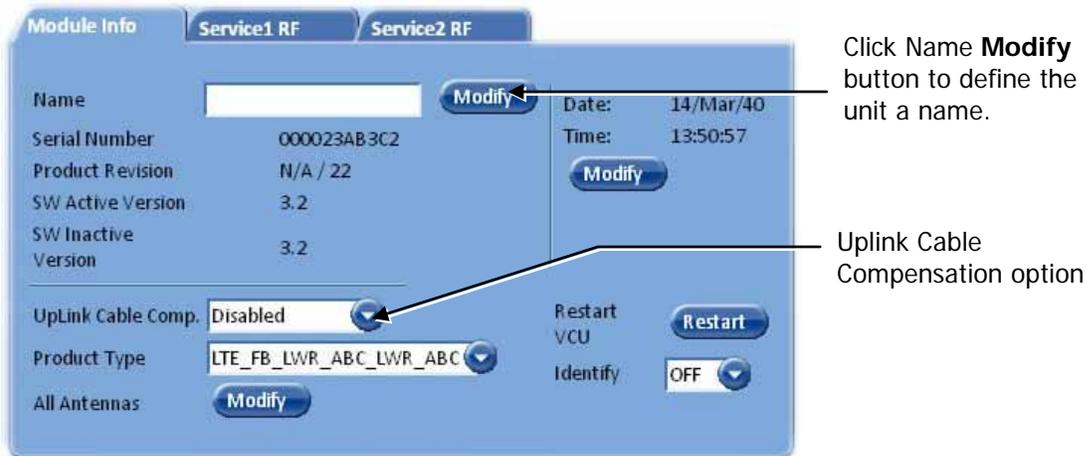

Figure 4-3. Module Info Tab
11. Uplink Cable Compensation – enable this parameter **ONLY** if the bonded cable lengths vary between the VCU and VAPs (reduces noise). See Figure 4-3. It is **NOT** recommended to enable this option for similar cable lengths between the VCU and the connected VAPs.